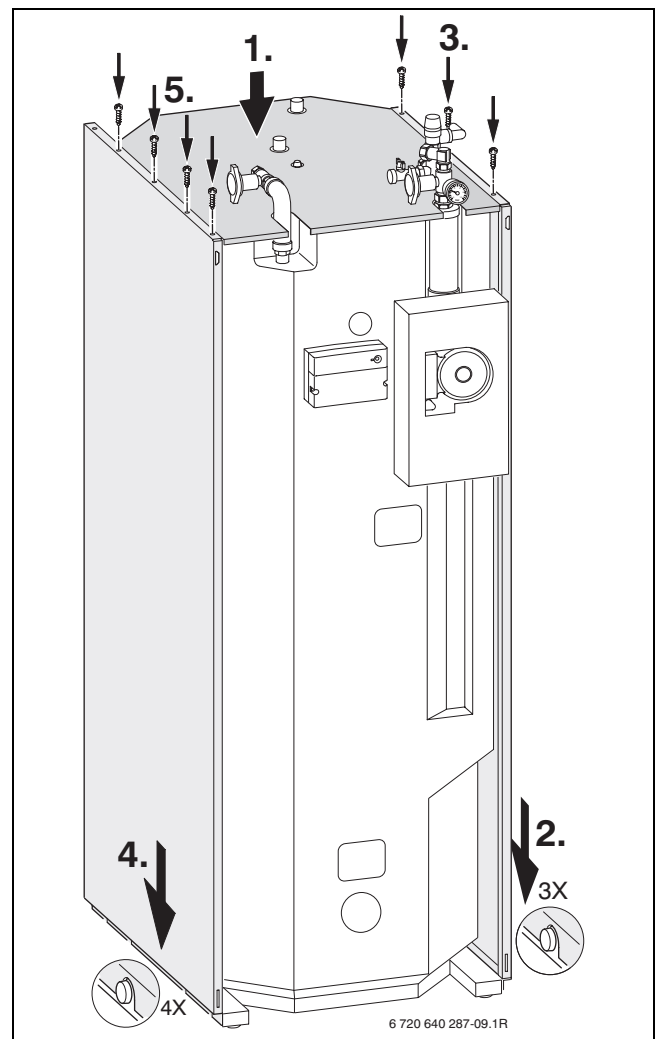

Fig. 9 Example: Fitting the side panels for cylinder **arranged to the left**.
- ▶ If the cylinder is **arranged to the left**, fit the side panels in accordance with Fig. 9.